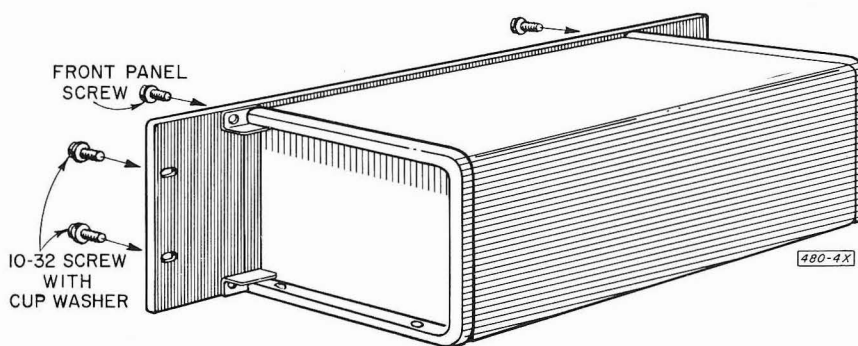

Figure 2-3. Rack Mounting: Attachment of wings to instrument.
- (e.) Attach the wings to the instrument with the front panel screws removed in step b (see Figure 2-3).